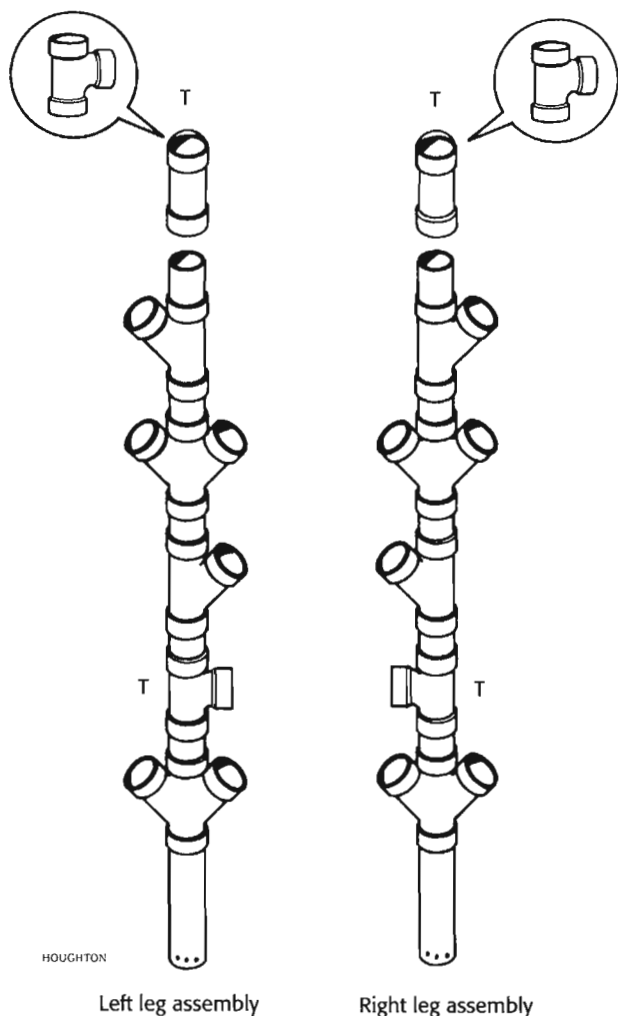

Figure 14. Outer leg assemblies
f. To complete the outer leg assemblies, attach T sections to the top of each, orienting their openings 90° to the openings of the other sections (as shown in figure 14). Note that for one leg assembly the opening of the lower T section must face to the right, and the opening of the lower T section of the other leg must face to the left. Check by holding the two leg assemblies vertically: make sure the openings of the top T sections face the same way while the openings of the lower T sections face one another.